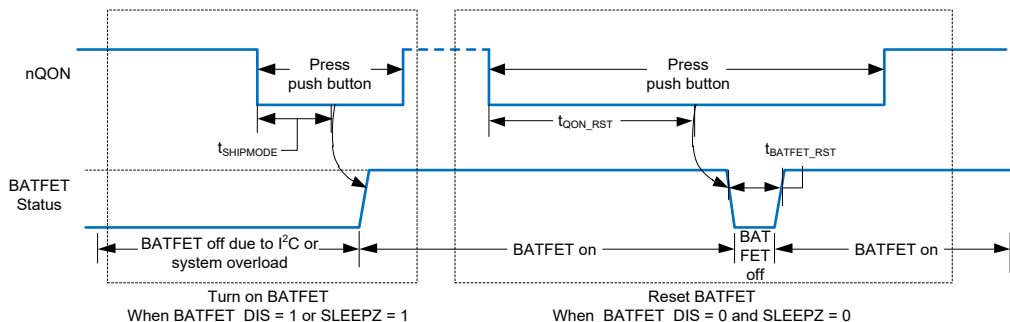

Figure 10. Left: nQON Timing to Exit Ship Mode (Enable BATFET), Right: System Power Reset (BATFET Temporarily Off)
1. Enable BATFET: Applying an nQON logic high to low transition with longer than $t_{SHIPMODE}$ deglitch time (negative pulse) turns on BATFET to exit ship mode (Figure 10 left).
BATFET is allowed to turn on (BATFET_DIS bit = 0), the BATFET turns off for t_{BATFET_RST} and then it is re-enabled resulting in a system power-on reset. This function can be disabled by clearing BATFET_RST_EN bit (Figure 10 right).